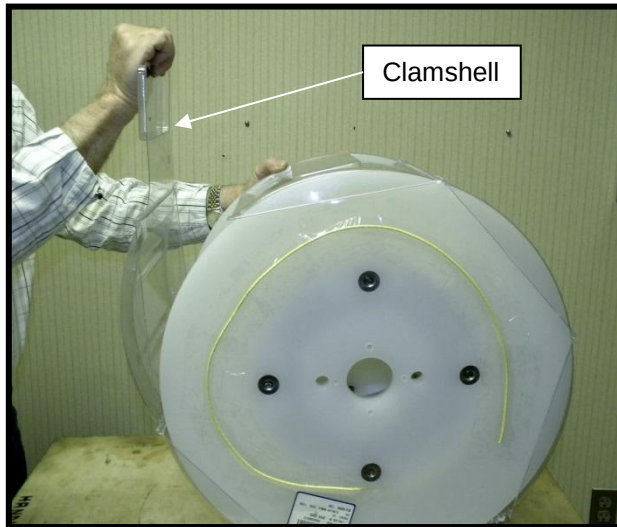

Figure 4
6.10 Remove protective cover (clamshell) if you have a 490 sized Bobbin from an empty ABF fiber reel. Larger reels do not have clamshell covering. Do not cut, damage, or discard protective cover. Save for re-use during fiber reel storage. **See Fig. 4.**